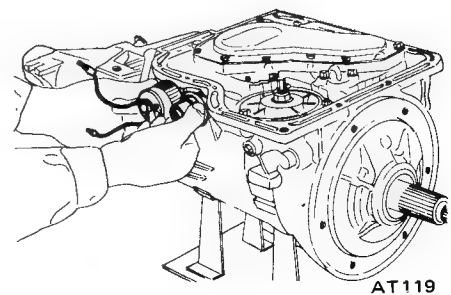

Fig. AT-53 Downshift solenoid and vacuum diaphragm
4. Turn off by hand downshift solenoid and vacuum diaphragm. Do not leave diaphragm rod at this stage of disassembly. Rod is assembled in top of vacuum diaphragm. See Figure AT-53.